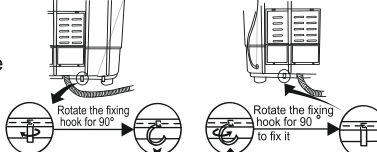

Figure 2 Pull outwards slightly
- Take off the drain hose from the hanging hole of the cabinet. Pull the drain hose fixing hook outwards gently to take out the drain hose from the two fixing hooks. (As per figure 2)
2. Fill water and add dissolved powder detergent until water reaches a suitable level. (Figure 2) Begin to wash to dispense detergent uniformly.